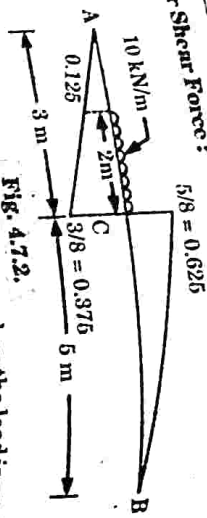

Fig. 4.7.2.
i. Maximum negative shear force occurs when the load is applied as shown in Fig. 4.7.2 on A.C.